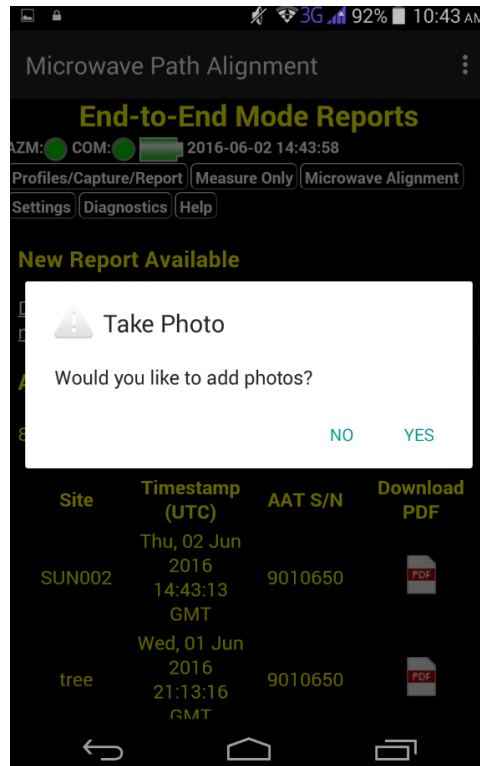

Figure 17
- 17) The user will be prompted to take photographs of the jobsite. Select “Yes” to add photos or “No” to save the site report without photos. *See Figure 17*